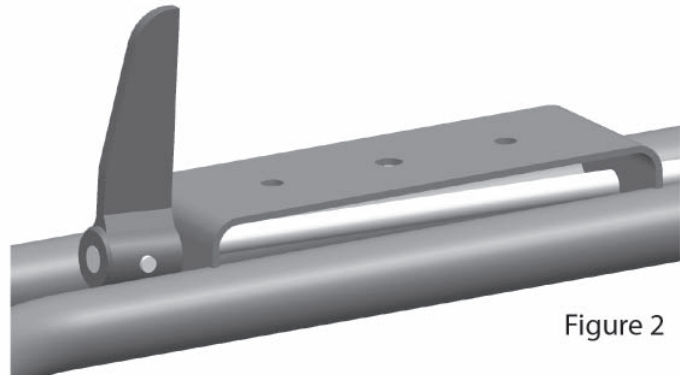
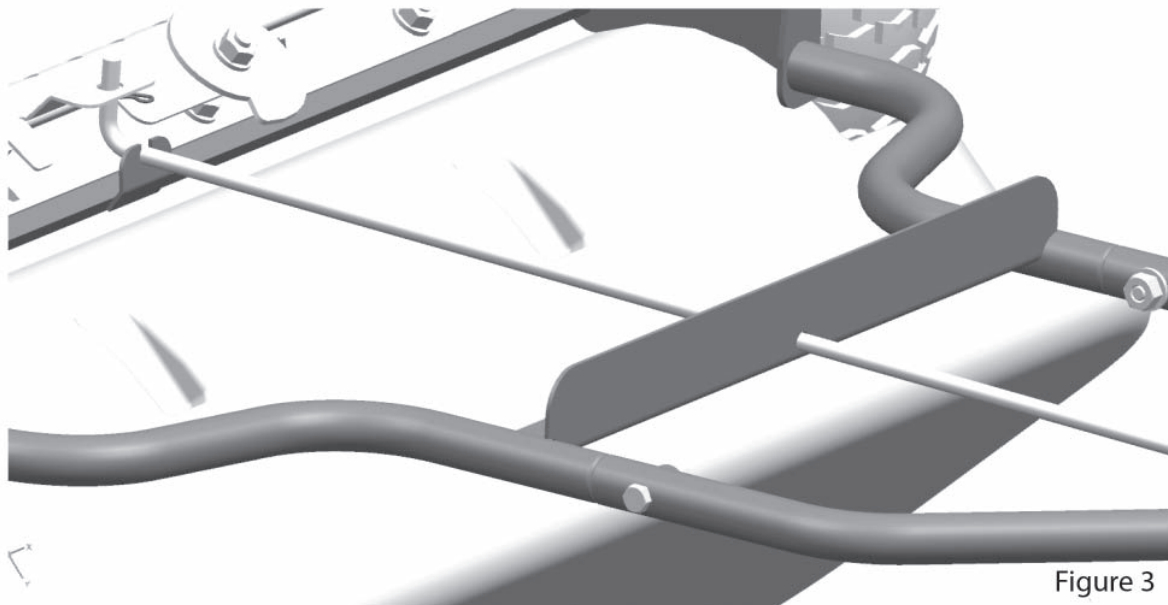

Figure 2
Figure 3
3. Assemble the upper handle assembly to main frame (see Figure 3). Simultaneously insert rod into upper handle as shown in Figure 2.